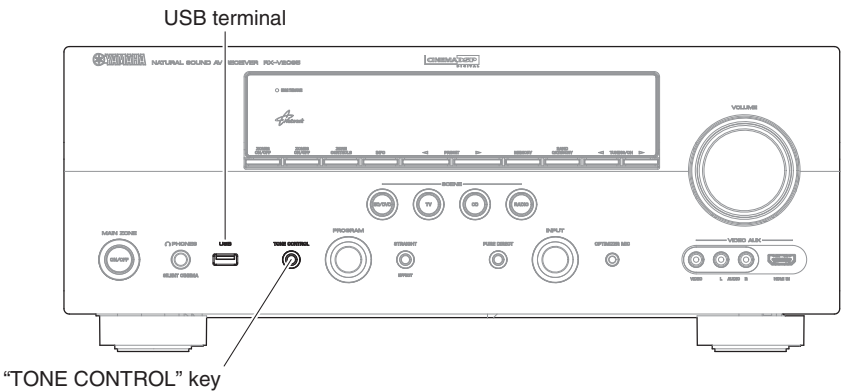

Fig. 2
1. Insert the USB storage device to the USB terminal located on the front panel of this unit. (Fig. 2)
2. While pressing the “TONE CONTROL” key of this unit, connect the power cable to the AC outlet. (Fig. 2)